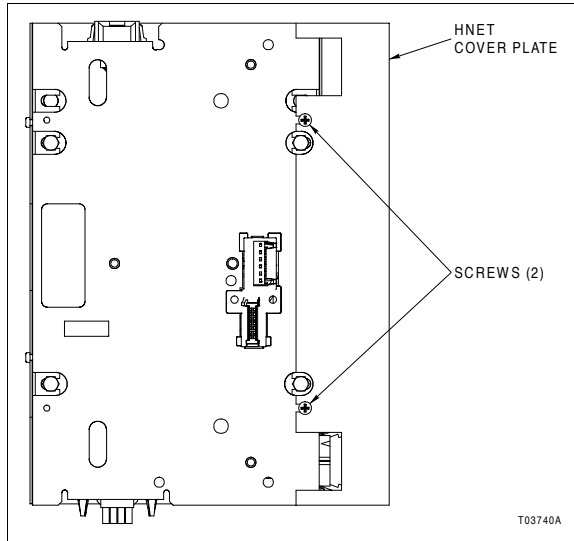

Figure PR7-6. Hnet Cover Plate Installation
- 3. Install the Hnet cover plate (Fig. PR7-6). Use the two screws previously removed to attach the cover plate to the mounting column.